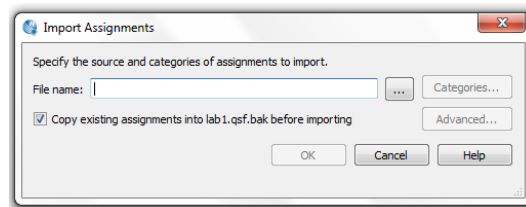

Figure 7: Import assignments dialog box
1. Goto **Assignments** → **Import Assignments** → **Select DE2-115.qsf** as shown in figure 7. This file can be downloaded from the Altera website